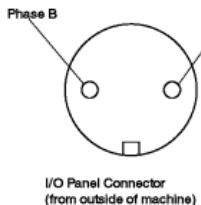

Figure 60. I/O Panel Connector
1. Turn the workstation power **OFF (0)**.
6. Check for the following resistances at **socket 1** using Figure 60 and Table 58, setting the ohmmeter to a range of 1 or higher.
7. Check for the following resistances using Figure 60 and Table 59, setting the ohmmeter to the X1 scale.
9. Check for the following resistances at **socket 1** using Figure 60 and Table 60, setting the ohmmeter to the X10 scale.
10. Omit this step for workstations that do not have cable-through. Otherwise, check the following resistances using Figure 60 and Table 61, setting the ohmmeter so that the resistance equals 1000 ohms or greater.